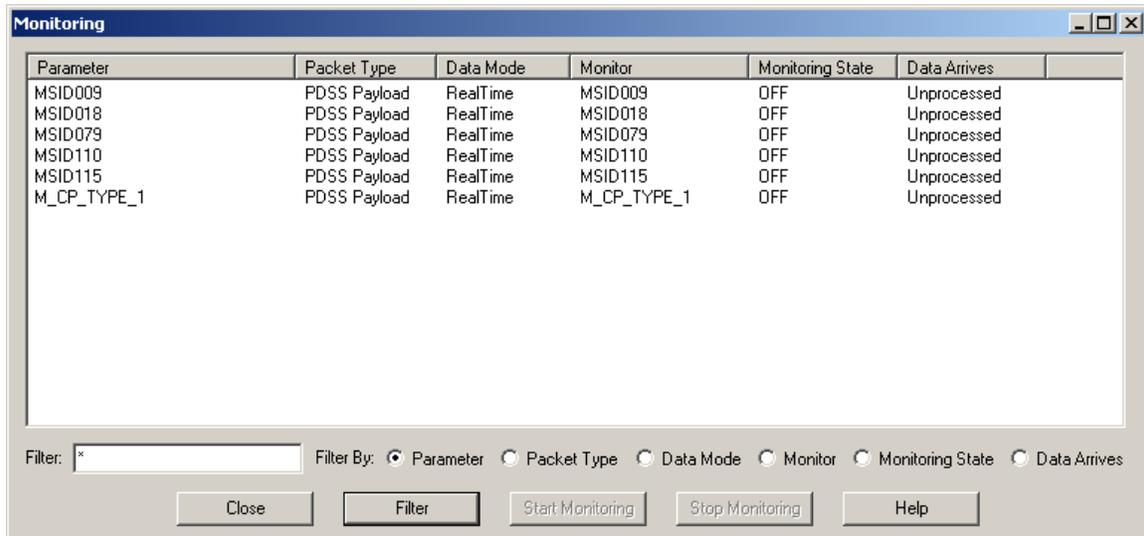

Figure 13 Monitoring Dialog
2. Go to the **Packet** menu and select **Activate Packet**. Once the packet is activated, go to the **Parameter** menu and select **Monitoring**. The dialog shown in Figure 13 will be displayed. Note that the only parameters shown in the list are those that have an associated monitor and are being processed (type of processing for the packet is "Entire Packet").